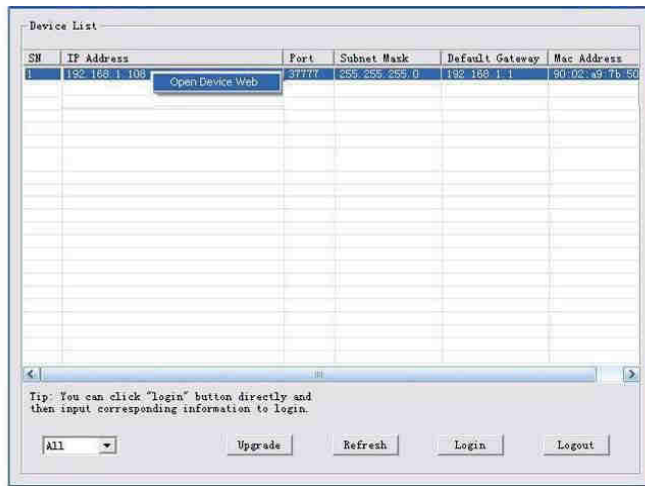

Figure 5-2
Step 2. Select one IP address and then right click mouse, you can see an interface is shown as in Figure 5-2.